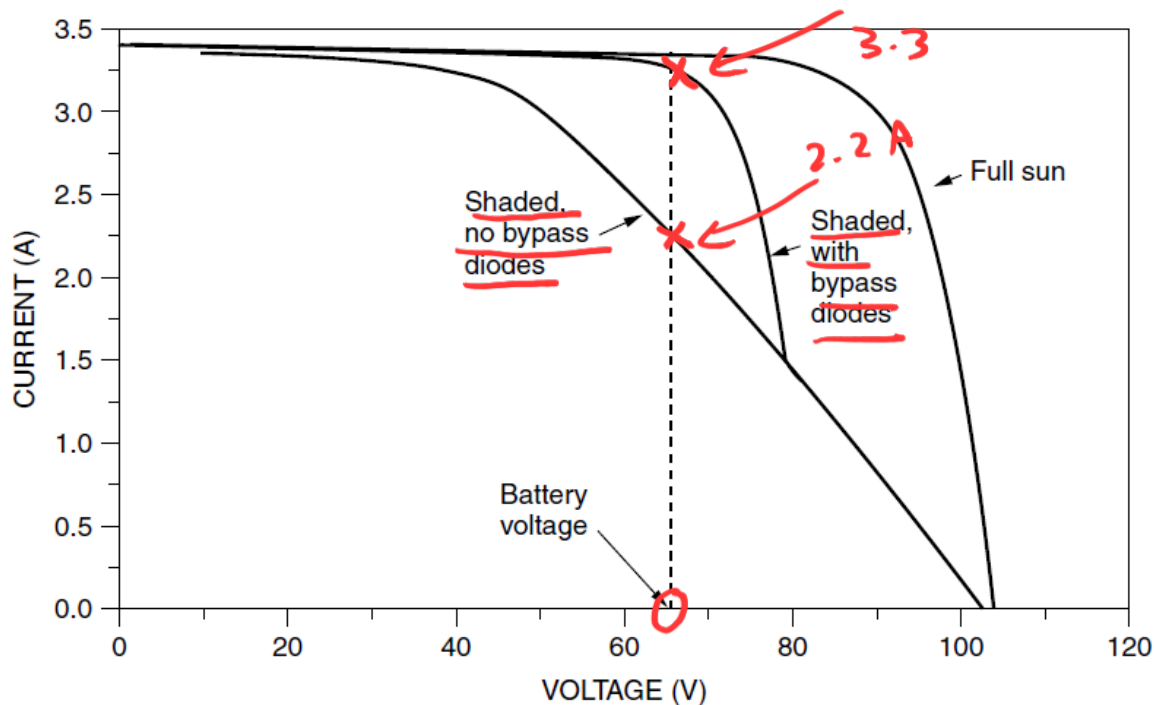

Fig. 8.42
- To see how bypass diodes wired in parallel with modules can help mitigate shading problems, consider Fig. 8.42, which shows $I-V$ curves for a string of five modules).